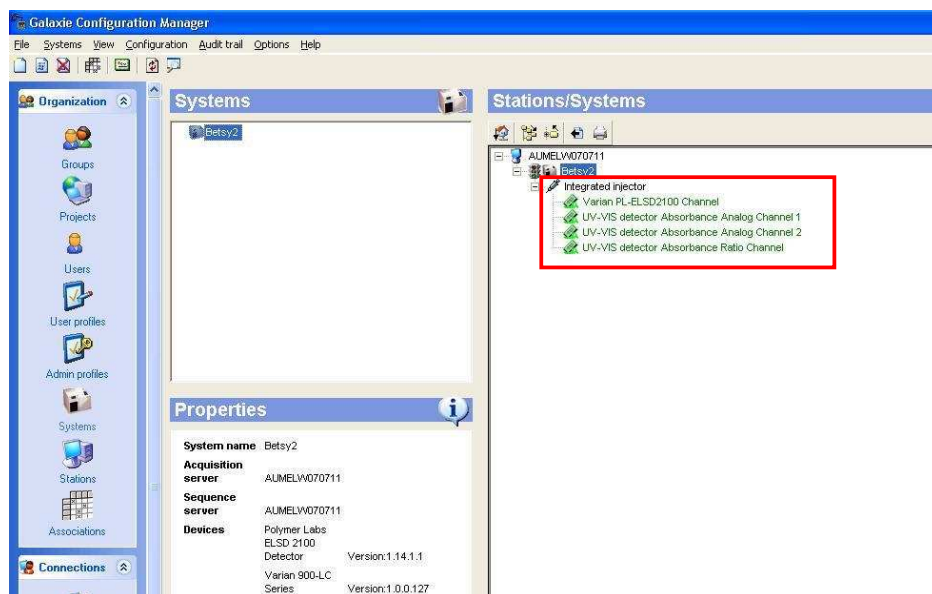

Figure 11: System Channels
15. Click OK and the ELSD will show up in the system tree as shown below (Fig 11).